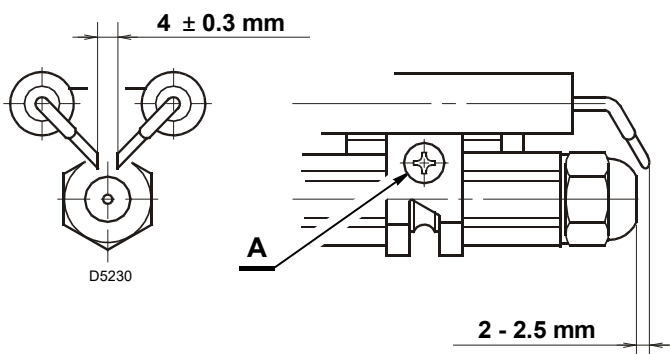

Fig. 19
Before removing or assembling the nozzle, loosen the screw A (Fig. 19) and move the electrodes ahead.
- 1) **Correct positioning of the electrodes, (see Fig. 19).**